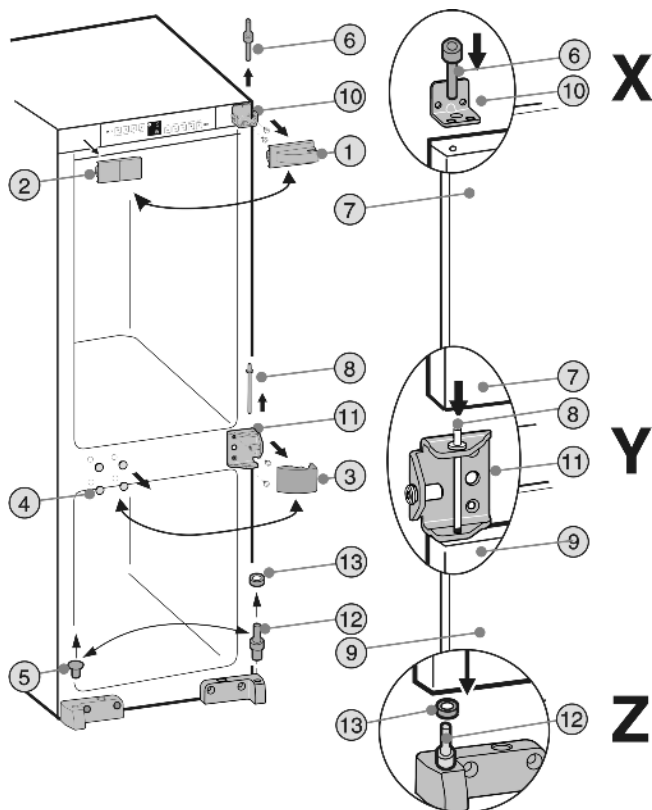

Fig. 3
► Lift off the covers Fig. 3 (1,2,3,4,5).
- Unscrew top bearing bolt Fig. 3 (6) from the refrigerator compartment door Fig. 3 (7).
- Tilt the refrigerator compartment door Fig. 3 (7) forwards a little and lift it off.
- Remove the middle bearing pin Fig. 3 (8).
- Lift off freezer compartment door Fig. 3 (9).
- Unscrew the top turn hinge Fig. 3 (10) and middle turn hinge Fig. 3 (11) and screw them firmly into place again on the opposite side with the same screws (with 4 Nm).
- Transfer bottom bearing bolt Fig. 3 (12) with washer Fig. 3 (13).
- Place the freezer compartment door at the bottom on the bearing bolt Fig. 3 (12) and washer Fig. 3 (13). **Detail Z**
- Insert the middle bearing pin Fig. 3 (8) through the middle turn hinge Fig. 3 (11) into the door bearing. **Detail Y**
- Place refrigerator compartment door on the middle bearing bolt Fig. 3 (8). **Detail Y**
- Pass the top bearing pin Fig. 3 (6) through the **outer** hole in the turn hinge Fig. 3 (10) and insert it into the door bearing of the refrigerator compartment door Fig. 3 (7). Screw it in **firmly (with 4 Nm)**. **Detail X**
- Turn covers Fig. 3 (1,2,3,4,5) through 180° and fit them on the opposite side.